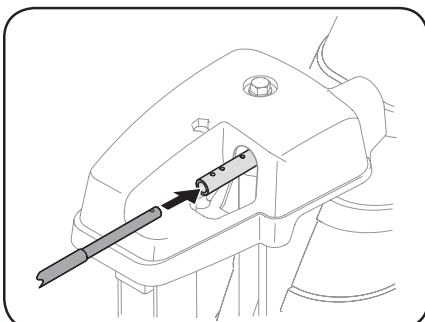

Figure 2-37
2. Insert round end of chute control rod into chute control head. Push rod as far into chute control head as possible, keeping holes in rod pointing upward. See Figure 2-37.